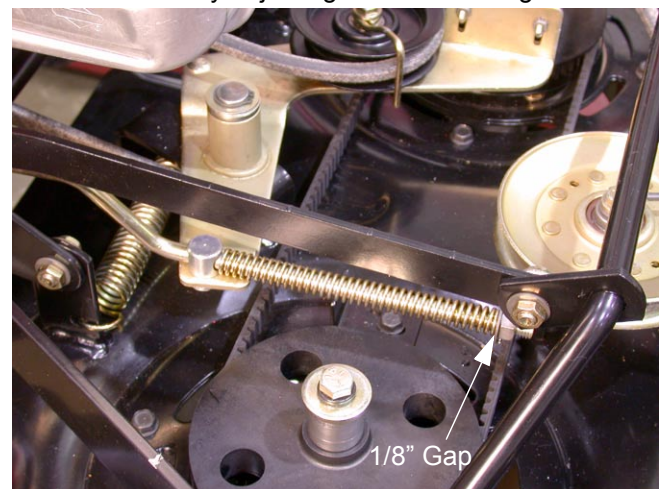

Figure 10
- 3.3. With the blade drive control disengaged, set a gap of 1/8" between the spring and the flat washer on the end of the threaded portion of the lift crank by adjusting the nut. See Figure 10.